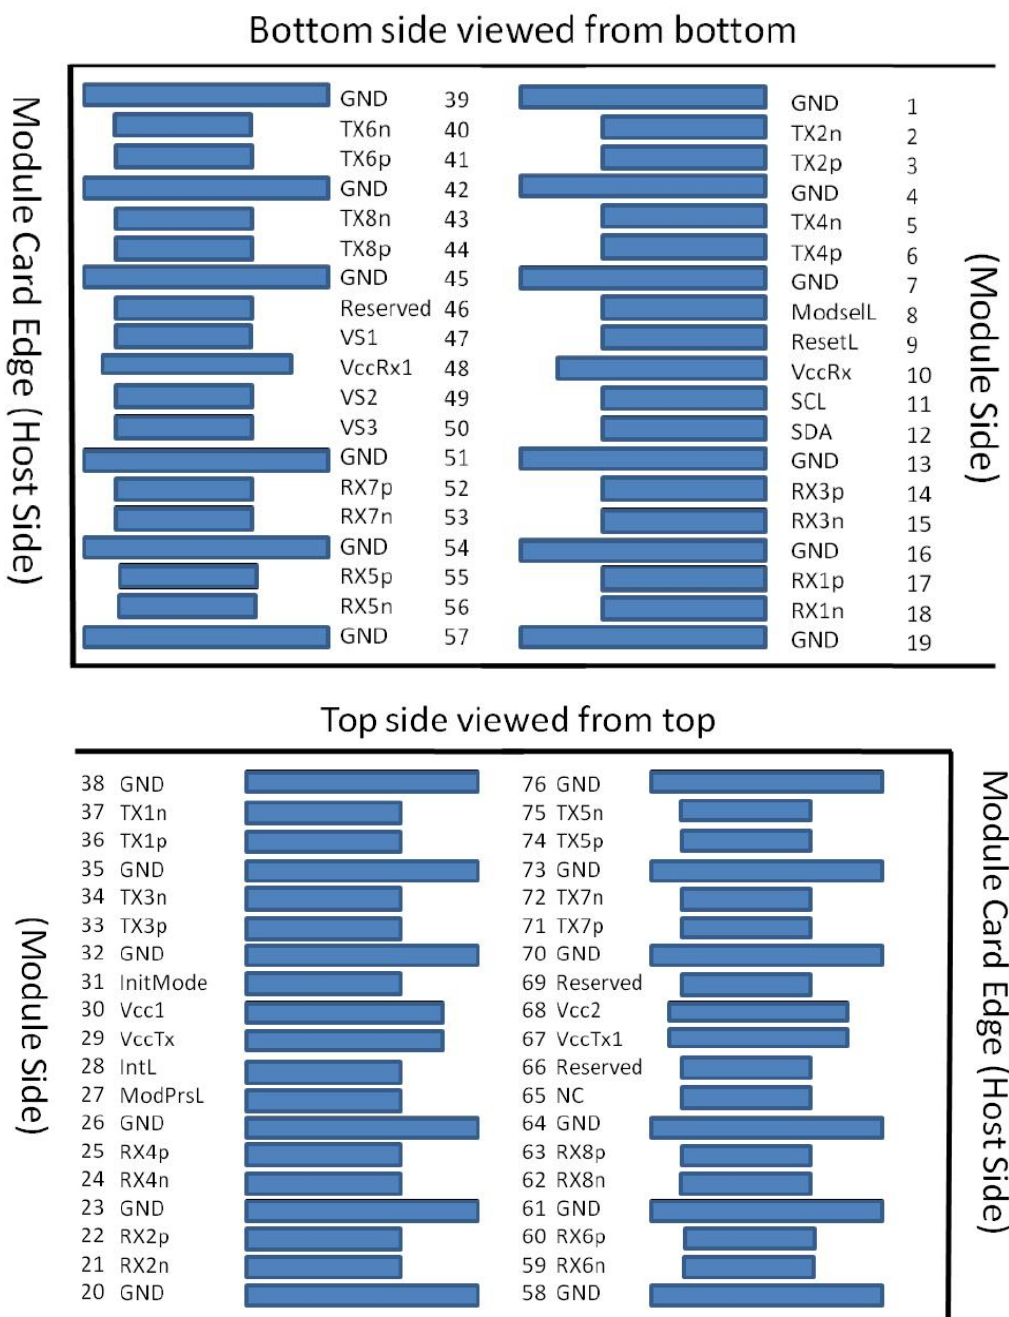

Figure 2 - QSFP56 TO 2 QSFP Pin Define
The electrical design of the QSFP56 TO 4SFP56 cable assembly is fully compliant to QSFP56 TO 4SFP56 Hardware Rev4.0 specifications. The electrical design included: a low loss design printed circuit board, DC block capacitances in the Rx channel, and EEprom chips for the management. Pin layout and function definition are shown in Figure 2 and Table 1.
4. Plug Sequence specifies the mating sequence of the host connector and module. The sequence is 1A, 2A, 3A, 1B, 2B, 3B. (see Figure 2 for pad locations) Contact sequence A will make, then break contact with additional QSFP56 TO 2 QSFP pads. Sequence 1A, 1B will then occur simultaneously, followed by 2A, 2B, followed by 3A,3B.